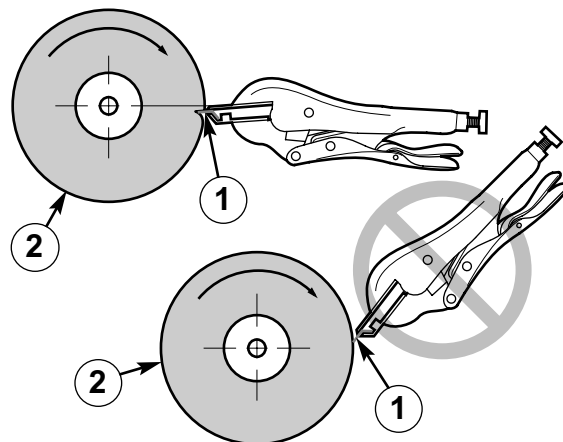

Figure 43 — Correct position (top) and incorrect position (bottom) for knife during buffering. (1) Knife, (2) Buffering Wheel.
For safety reasons, use a knife buffering clamp (see “Tools”, page 61). If knives are hand held, be cautious and use a firm grip. Hold the knife firmly with the bevel side up, parallel with and just below the center line of the shaft of the buffer (Figure 43).
2. Knives must be correctly held against the buffering wheel (Figure 43).